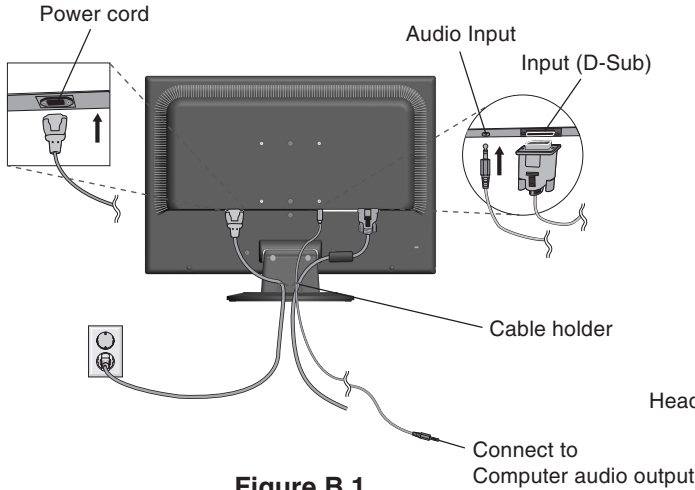
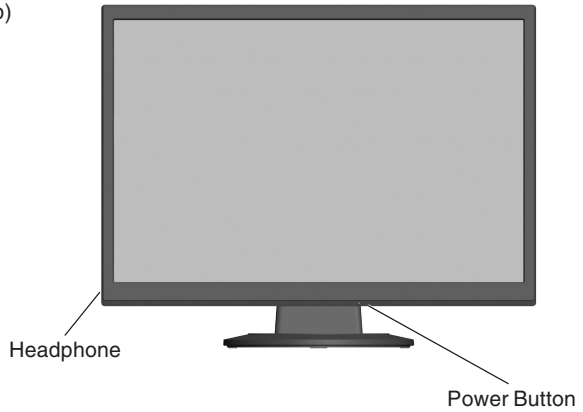

Figure B.1
Figure C.1
3. Connect the 15-pin mini D-SUB of the video signal cable and Audio Cable to the appropriate connector on the back of the monitor (**Figure B.1**). Connect the Headphone (not included) to the appropriate connector at the left of the monitor (**Figure C.1**).
4. Connect one end of the power cord to the monitor and the other end to the power outlet. Place the Video Signal Cable and power cord to the Cable holder (**Figure B.1**).
5. Turn on the monitor with the bottom power button and the computer (**Figure C.1**).